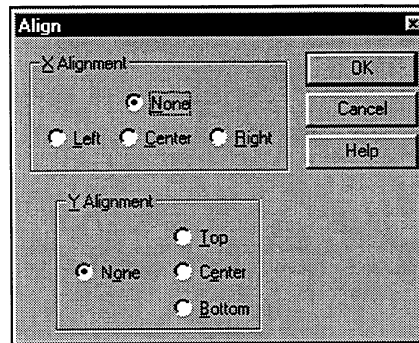

Figure 4-7. Align Dialog Box
8. To align the pump and the vessel, select both shapes by drawing a box around them, and then select the Align button from the toolbar or select the Align command from the Arrange menu. The Align dialog box opens, as shown in Figure 4-7.